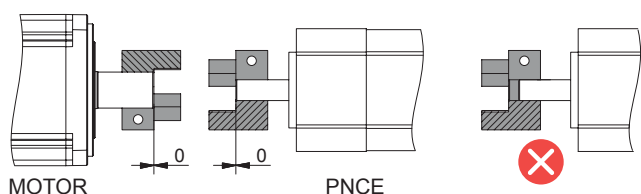

Figure 17: Coupling hubs and journals alignment.
**STEP 2:** Place the coupling hub **1 6** on the drive journal of the PNCE. Ensure that the coupling hub **1 6** and the drive journal of the PNCE are correctly aligned, see Figure 17. Tighten the coupling hub screw **1 6** with the coupling tightening torque.
Ensure that the coupling hub **2 7** and the motor journal are correctly aligned, see Figure 17.